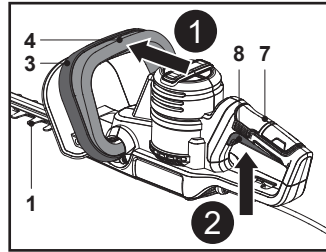

Fig. 5
1. Ensure the cutting device (blade) (1) does not touch any objects. Remove the blade cover (12) from the cutting device (blade) (1) before switching the machine on.
2. Hold the machine with one hand on the front handle (3) and the other hand on the rear handle (7).
3. Squeeze the safety switch (4) and hold it in position (Fig. 5, step 1).
4. Squeeze the on/off switch (8) to switch the machine on (Fig. 5, step 2).
5. Release either the on/off switch (8) or the safety switch (4) to switch the machine off.